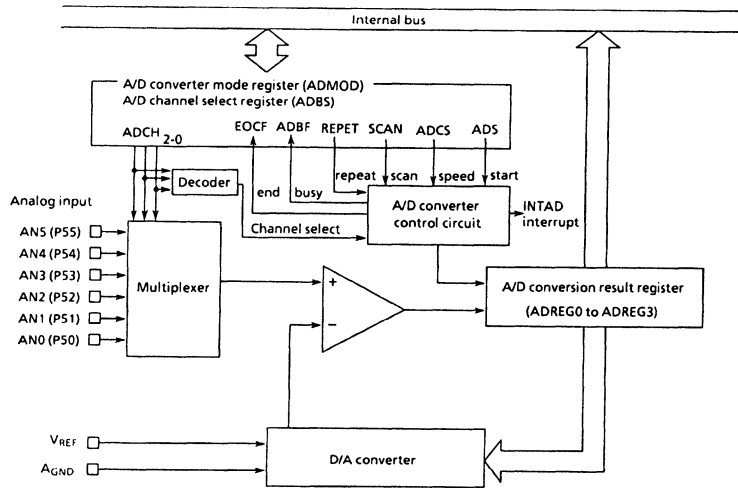

Figure 3.12 (1). Block Diagram of A/D Converter
Figure 3.12 (1) shows the block diagram of the A/D converter. 6-channel analog input pins (AN5 to AN0) are shared by input-only P5 and so can be used as input port.